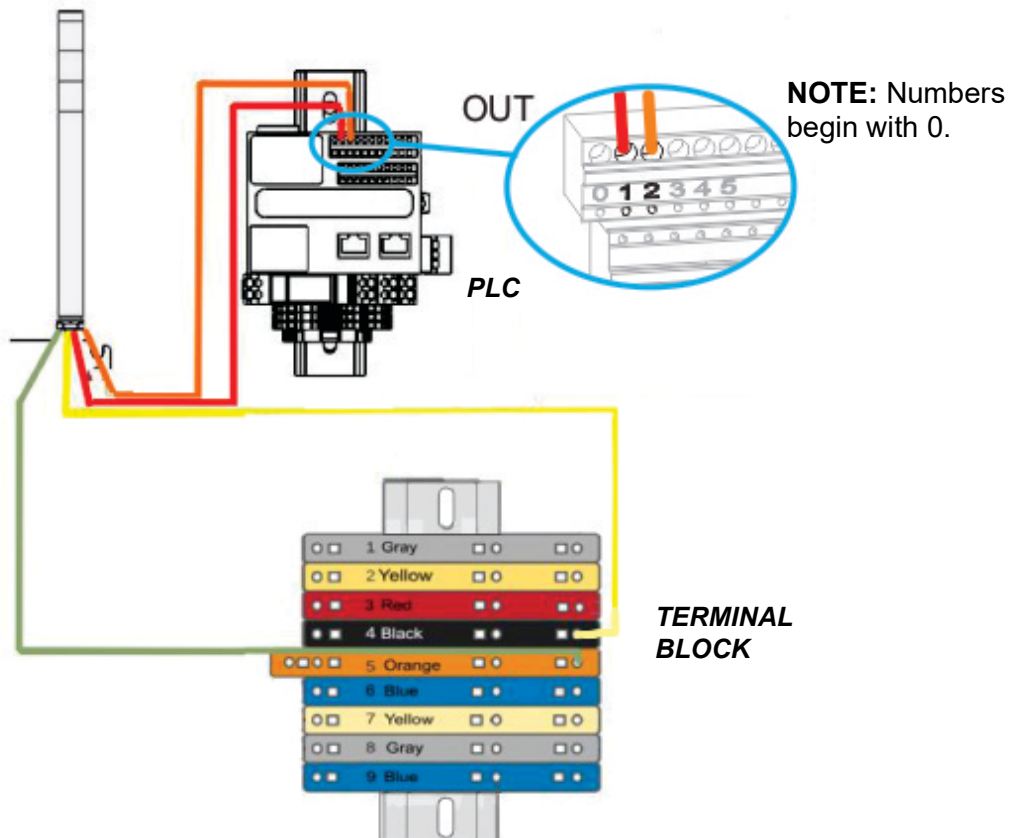

FIG. 16
7. Connect the light wires as shown in FIG. 16.